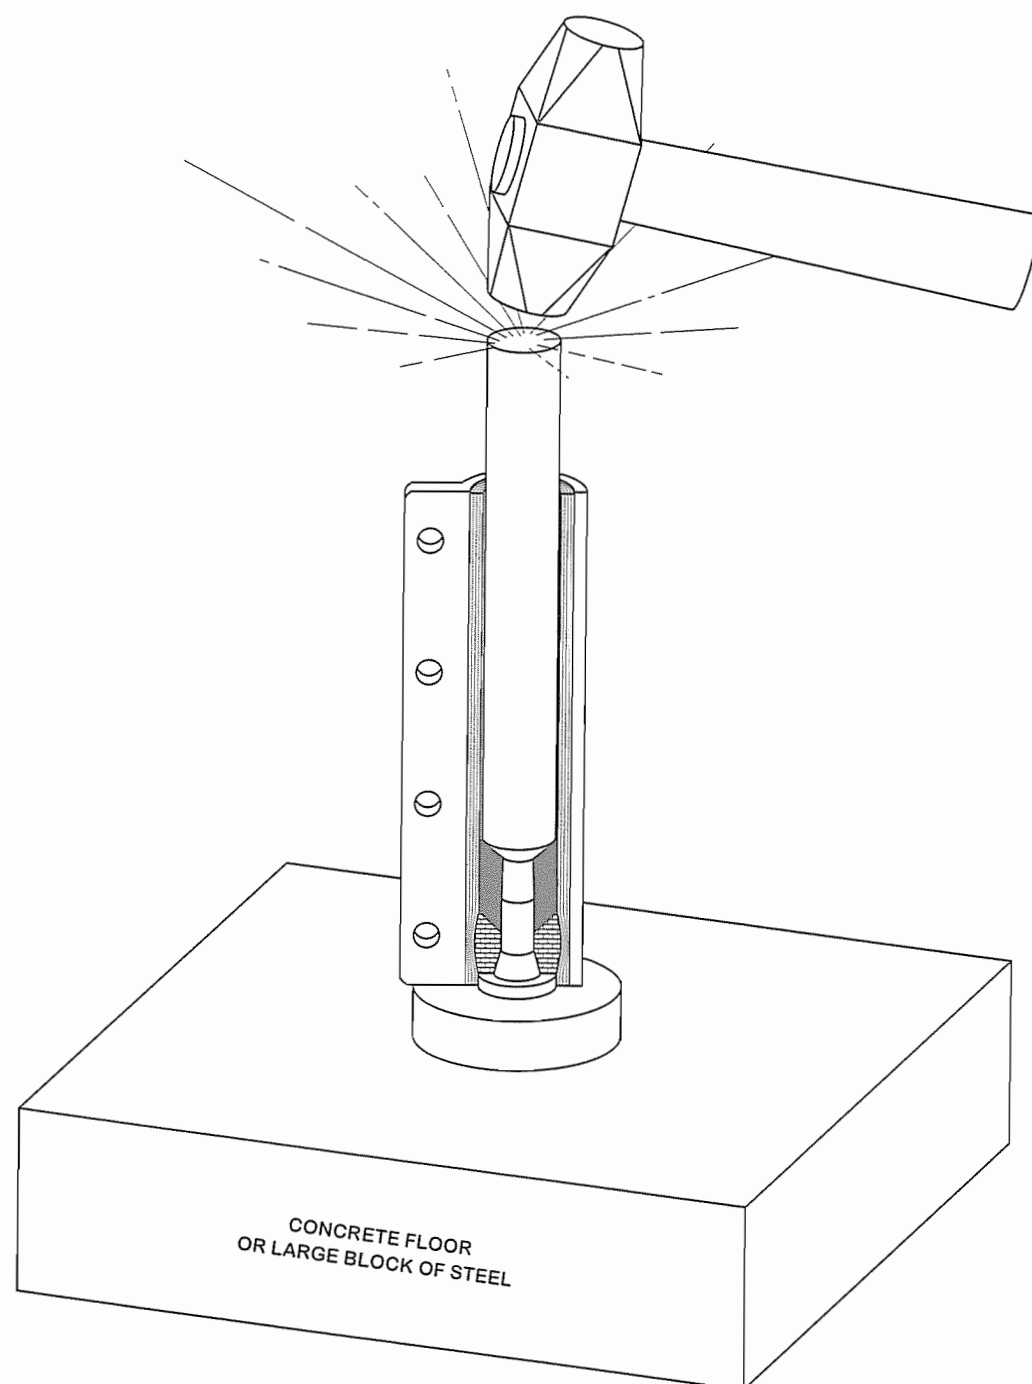

Figure 10-7. The first dose of propellant is rammed into place with a cone-shaped propellant tamp.
6. *Without delay*, put in the first dose of dampened propellant (**Figure 10-6**). Insert the propellant tamp, and ram the propellant into place (**Figure 10-7**).